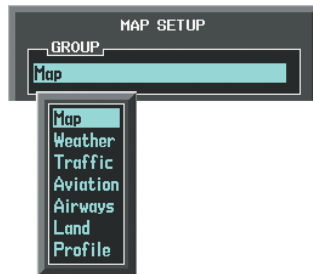

Figure 6-144 Navigation Map Page Setup Menu
- 4) Turn the small **FMS** Knob to select the 'Map' Group and press the **ENT** Key (Figure 6-144).